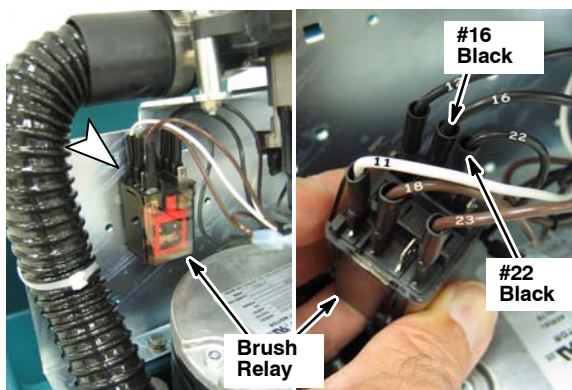

Fig. 8
9. Disconnect wire #16 black and #22 black from the brush relay (CR1/cr1) (*Note: relay may be removed from its mounting panel for better access to the wires*). Discard wire #16 black (Fig. 8).